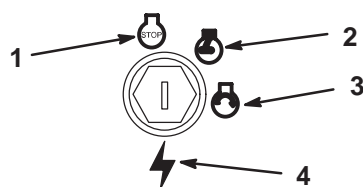

Figure 7
3. Turn the ignition key to Off (Fig. 7).